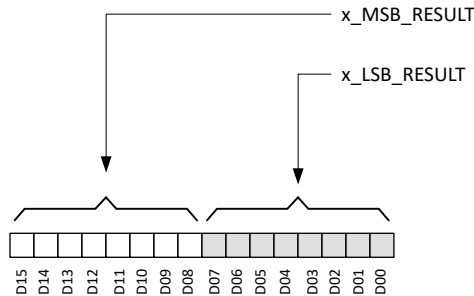

图 7-15. Magnetic Sensor Data Definition
The X, Y, and Z magnetic sensor data are stored in x_MSB_RESULT and x_LSB_RESULT registers. 图 7-15 shows that each sensor output stored in a 16-bit 2's complement format in two 8-bit registers. The data can be retrieved as 16-bit format combining both MSB and LSB registers, or as 8-bit format through the MSB register.
- D_i is the data bit shown in 图 7-15.